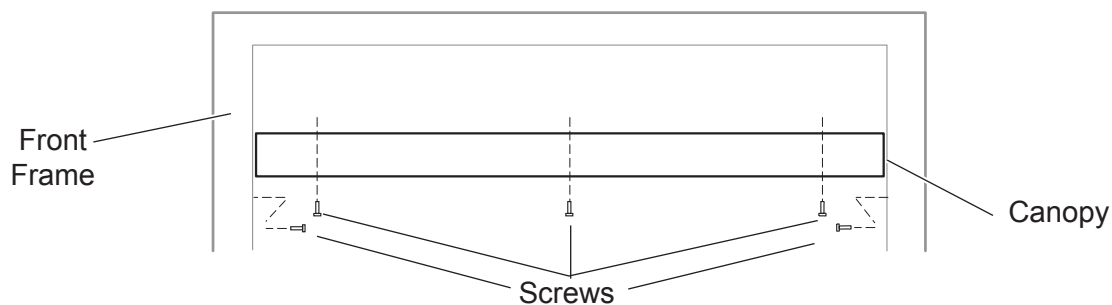

Figure 13 - Installing Canopy
1. Locate three (3) holes at the top of the front frame. See *Figure 13*.
3. Secure canopy to front of frame with screws provided. See *Figure 13*.